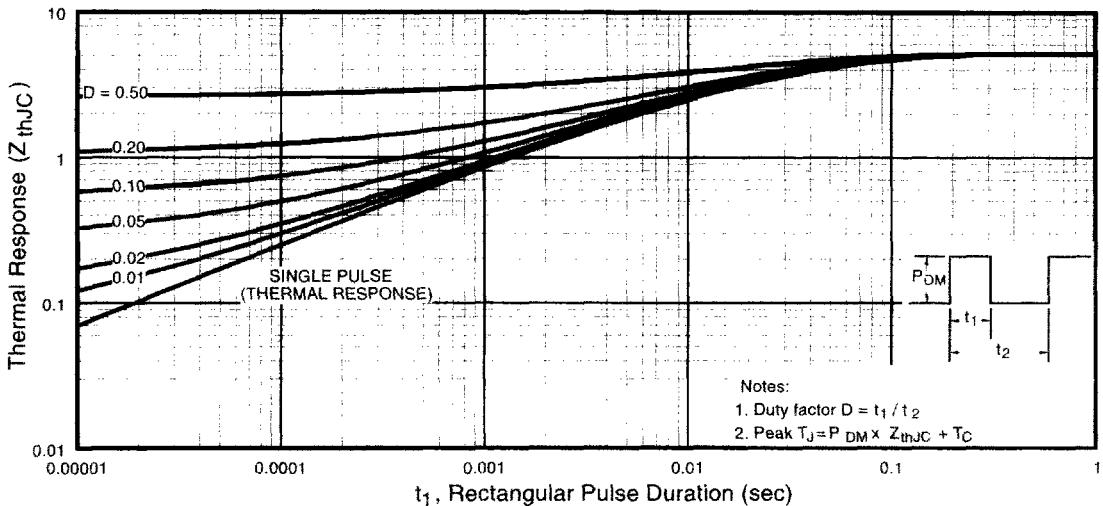

Fig 11. Maximum Effective Transient Thermal Impedance, Junction-to-Case
- ① Repetitive rating; pulse width limited by max. junction temperature. (see figure 11)